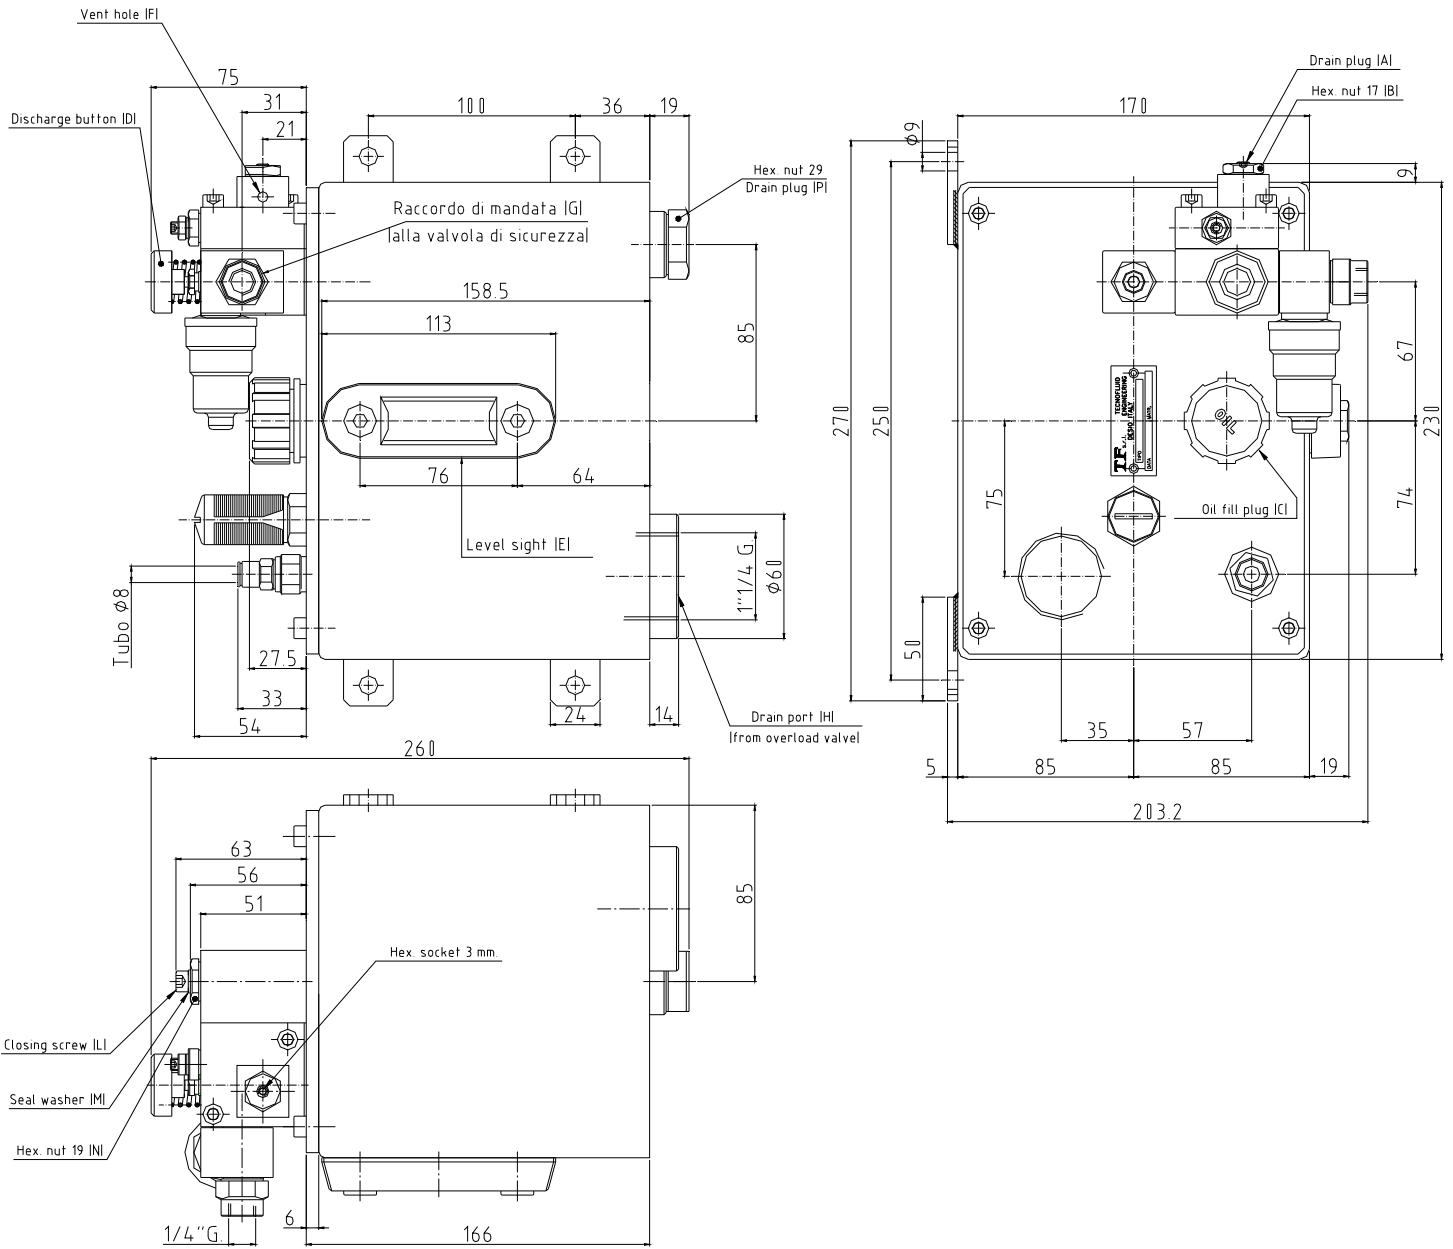

fig.3
## Power unit code 5-1520-\*-0 (figure 3)
**Power unit code 5-1520-\*-0 ( figure 3)**